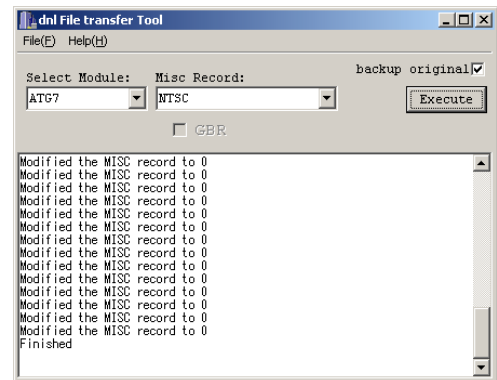

Figure 12 TgDNL Conversion Complete Window
- Conversion of DNL file is executed. The DNL file thus converted is created with the file name before conversion (refer to Figure 12).